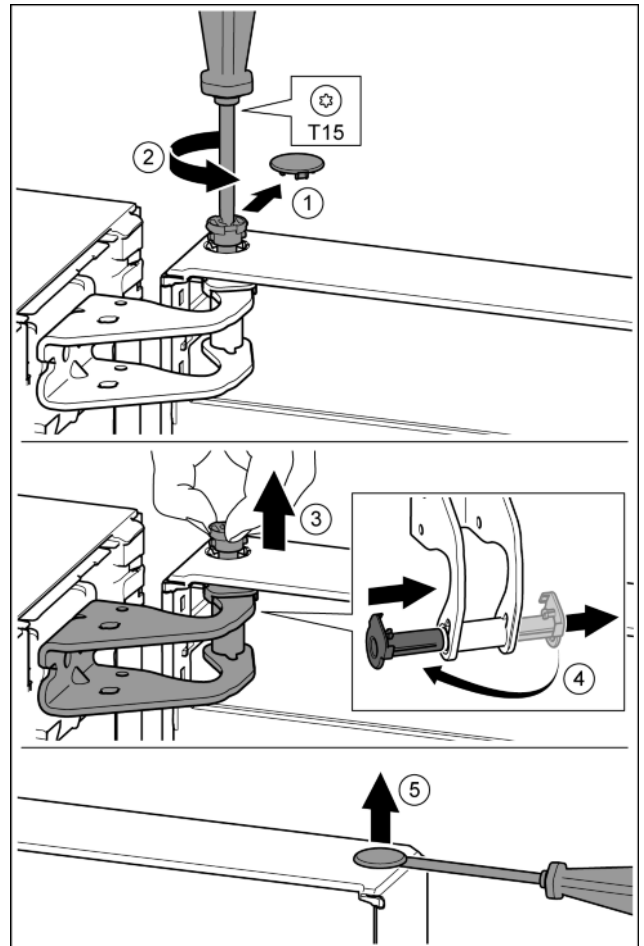

Fig. 9
- ▶ Carefully remove the protective cover. Fig. 9 (1)
- ▶ Undo the bolt a little with a T15 screwdriver. Fig. 9 (2)
- ▶ Hold the door and remove the bolts with your fingers. Fig. 9 (3)
- ▶ Pull the bearing bush out of the guide. Insert from the other side and click into place. Fig. 9 (4)
- ▶ Carefully lift the plugs out of the door bearing bush with a slotted screwdriver and remove. Fig. 9 (5)